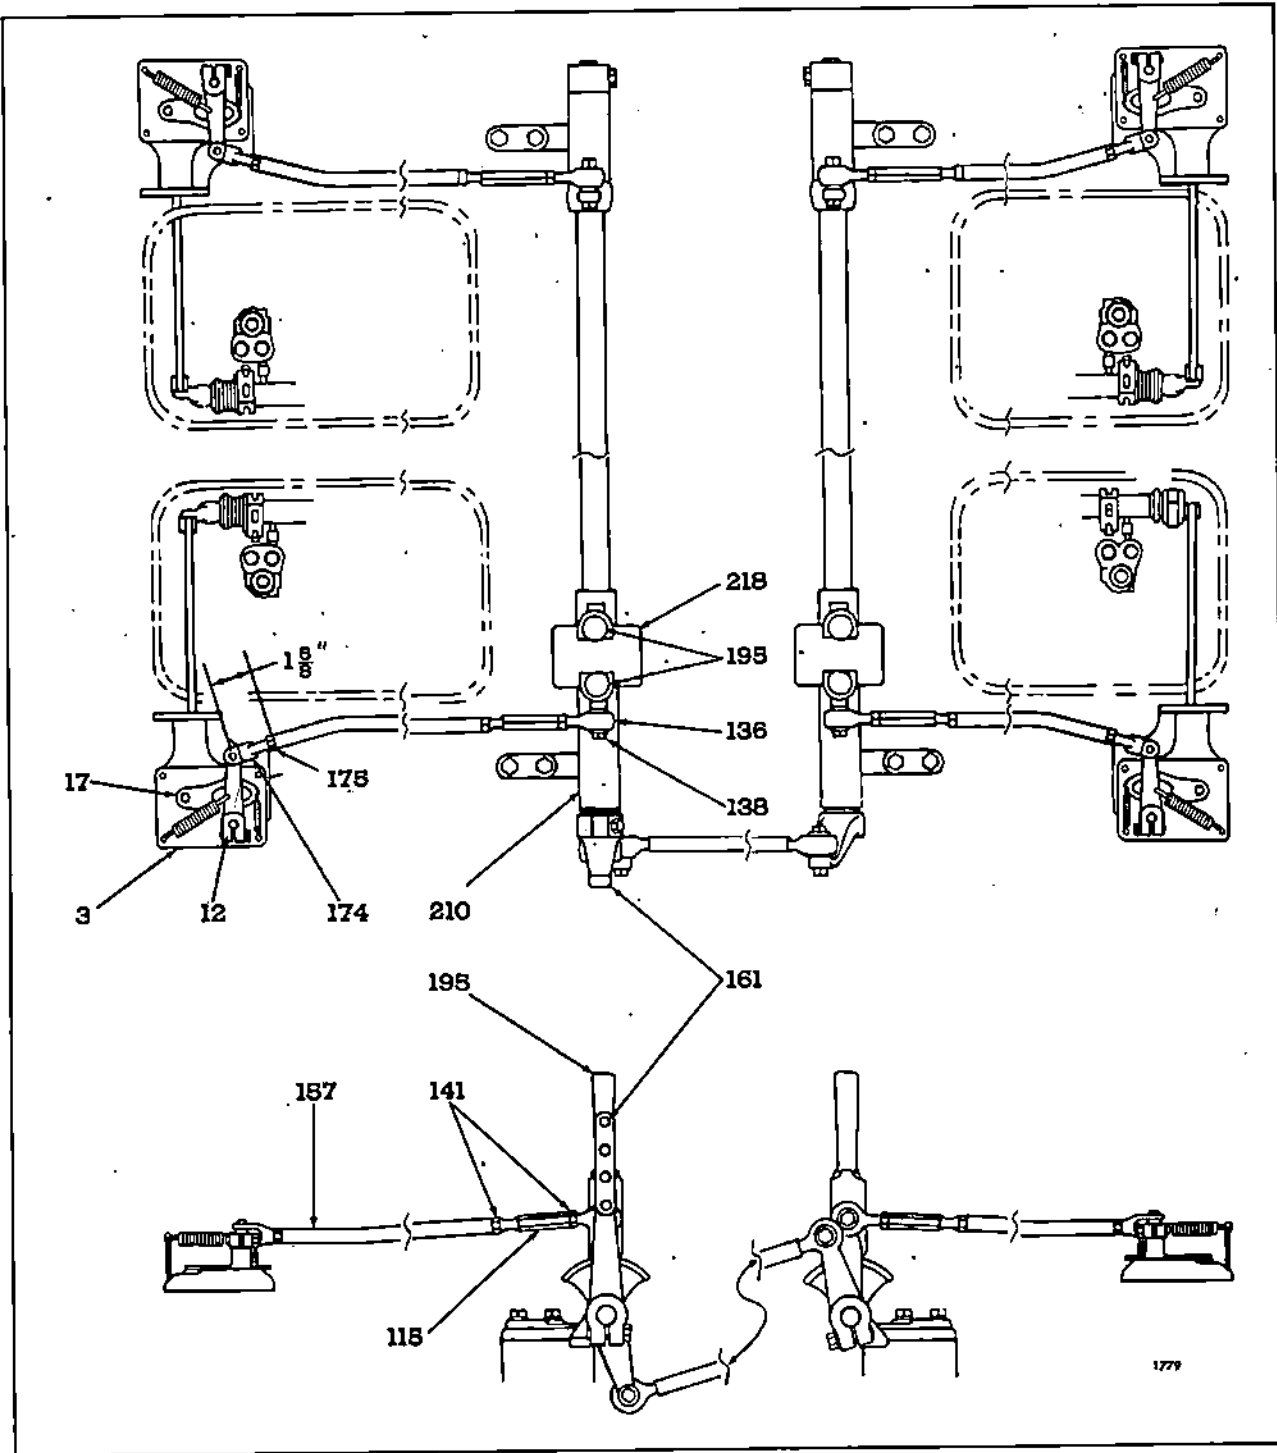

Fig. 29 - Diagram of Throttle Control Linkage for Quad Units With Limiting Speed Mechanical Governors
Disconnect the control rods (157), Fig. 29, from the governor speed control levers (12) and perform a tune-up on each engine before adjusting the throttle control linkage. Then, with the engines stopped proceed as follows:
5. If the governor speed control lever is not in the MAXIMUM SPEED position, loosen the two lock nuts (141) and adjust the turnbuckles (115), Figs. 29 and 30.
7. Disengage the clutches, place the master control lever (161) in the IDLE position and start the engines.
CAUTION: Use care when tightening the lock nuts to prevent misalignment of the rod end bearings (136), Figs. 29 and 30.